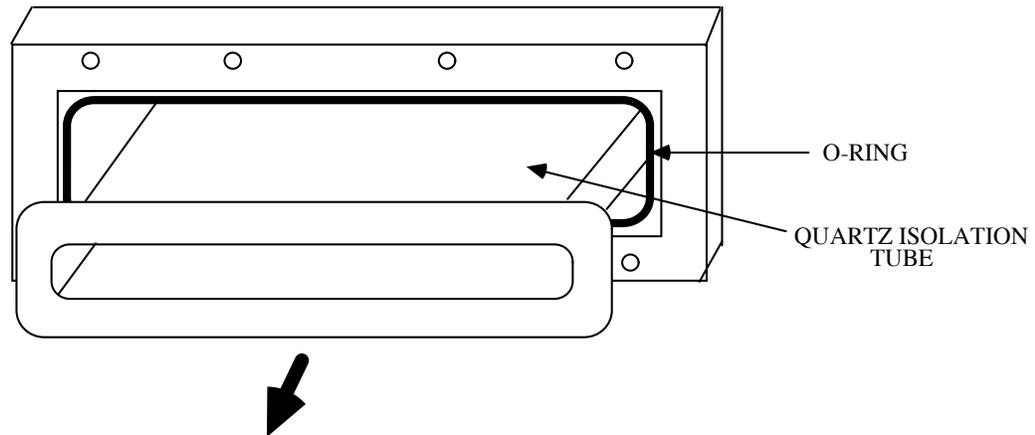

Figure 10-4: *Removing the Isolation Tube*
- Step 8. Put on clean Latex gloves and, from the front of the system, gently pull forward on the quartz isolation tube. It may be necessary to gently move the tube from side-to-side or up and down while pulling the tube forward. See Figure 10-4.